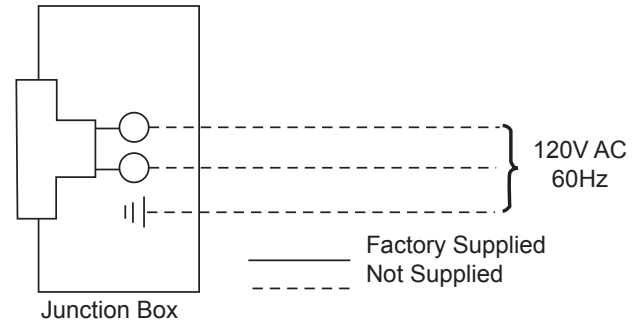

**Figure 50 -
3. The junction box cover has a factory installed "romex" style strain relief connector. After connecting the wires, route the wire leads through this connector. Refer to the wiring diagram in *Figure 50*.